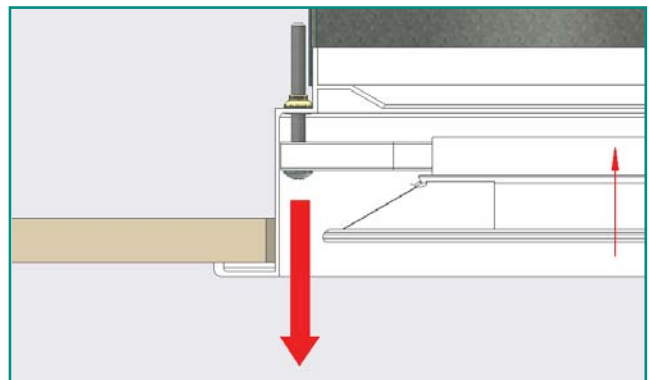

Figure 7a: Move Core in for the air to flow downwards
b) However, if the core is adjusted so it is above the diffuser face (**Figure 7a**), then the air flow pattern will then exit in a downwards direction.